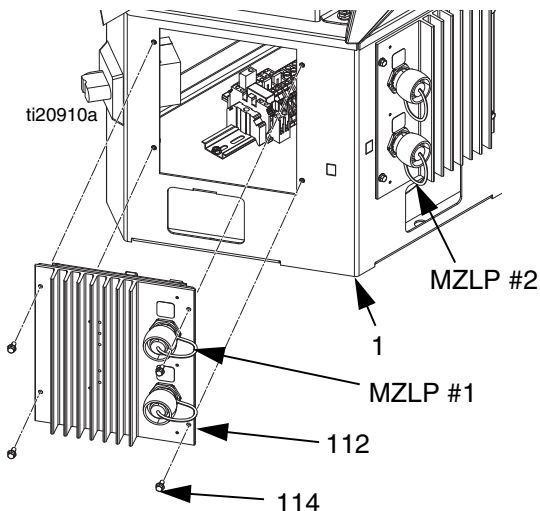

FIG. 42
5. Remove four screws (114) securing MZLP (112) to electrical enclosure (1) then carefully remove MZLP from electrical enclosure. See FIG. 42.
6. If replacing MZLP #1, remove the daughter card and standoffs, and re-install them on the new MZLP. See FIG. 42 for MZLP #1 and MZLP #2 identification.